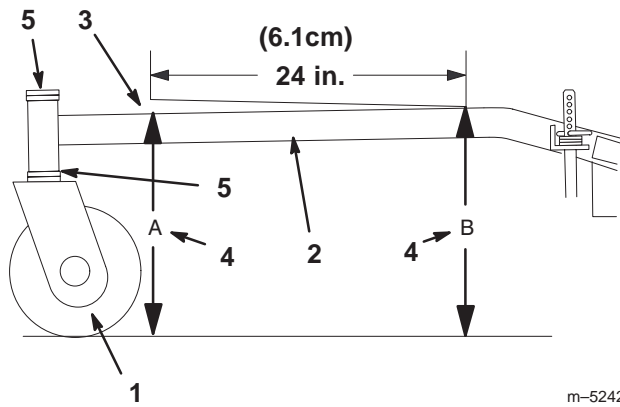

Figure 47
- Measure out 24 inches on the carrier frame (Fig. 47).
- Measure carrier frame height at location “A” (Fig. 47).
- Measure carrier frame height at location “B” (Fig. 47).
- The height at location “A” must be a 1/4–3/8 in. (6 mm –10 mm) lower than location “B” (Fig. 47).
- If the carrier frame is not correct, move caster spacers to make it a 1/4–3/8 in. (6 mm –10 mm) pitch (Fig. 47). Move spacers from top or bottom to make the correct pitch.